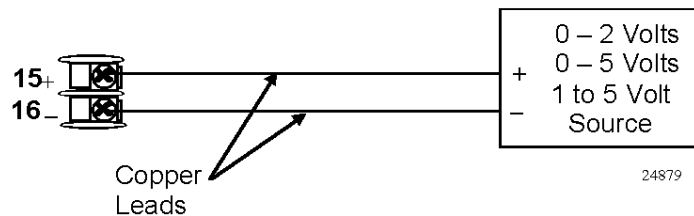

Figure 1-8 Wiring Connections for 1 to 5 Volt Input – Input 2
- Use the copper leads and connect the calibrator to the rear terminals of Input #2 (see Figure 1-8).